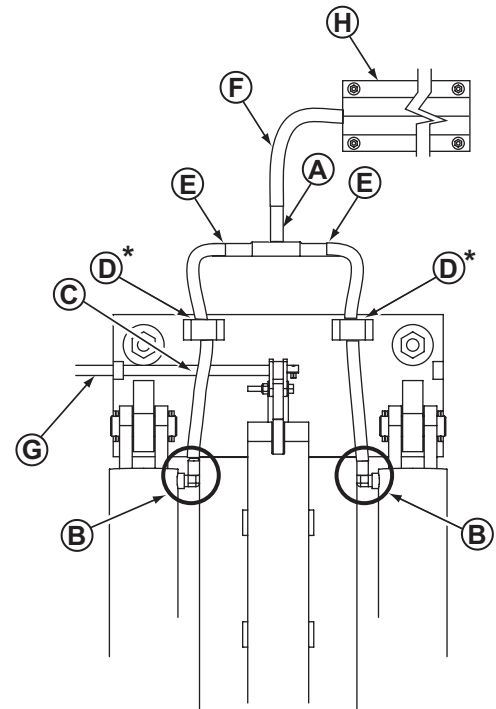

Fig. 6
- C. Connect the long hydraulic hose to the branch on the JIC tee fitting, Fig 6 (F).
- D. Connect a male pipe thread to male JIC elbow to the port near the base end of each cylinder. The fittings should face toward the front of the lift (towards conduit or hose guard) and up 5 to 10 degrees, the cylinders will rotate upward as the lift rises, Fig. 6 (B). For rear approach hose installation face rearward down 5 to 10 degrees.
- E. Connect the short hydraulic hoses to the elbows on the cylinders, Fig. 6 (B). These connections should be hand-tight only. Feed the free ends of the hoses thru the hose guides, Fig. 6 (C & D) . (Ignore for rear approach hose installation.)
- F. Connect short hoses to the runs on the JIC tee fitting, Fig. 6 (E). For rear approach hose installation to stainless tubing also position tubing clamp adapters over concrete anchors and place clamp over tubing as shown. Connect 90 degree JIC elbow to swivel tee and then long hose to male adapter.
**\*For recessed installations, hose guides (D\*) are not used. Cylinders are rotated 180° from positions shown in Fig. 6.**